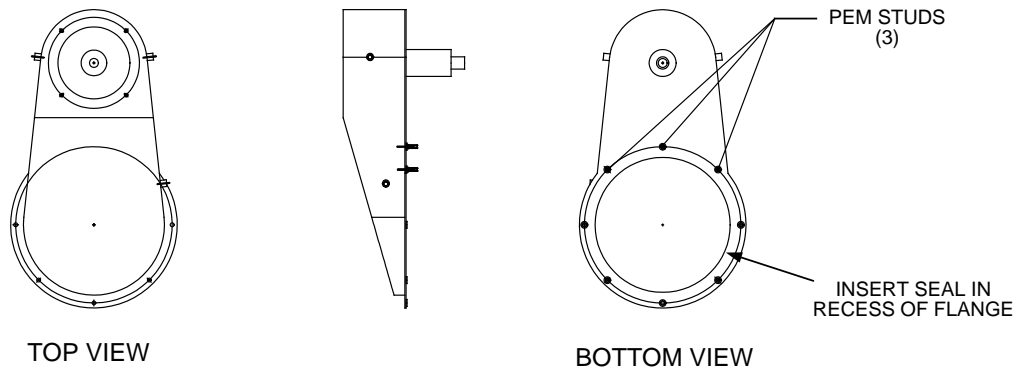

Figure 9: Benchmark 3.0LN Exhaust Manifold
1. Replace the exhaust manifold seal (part no. 49102) with the new seal provided in the kit. Install the adhesive-backed seal in the recess of the exhaust manifold flange (Figure 9) so that the adhesive side is in contact with the exhaust manifold.
2. Align the exhaust manifold with the upper flange of the secondary heat exchanger. Secure the manifold in place using the five (5) bolts removed in step 4. Also, replace the hex nuts on the three (3) PEM studs. Alternately tighten the bolts and nuts to obtain a uniform seal.